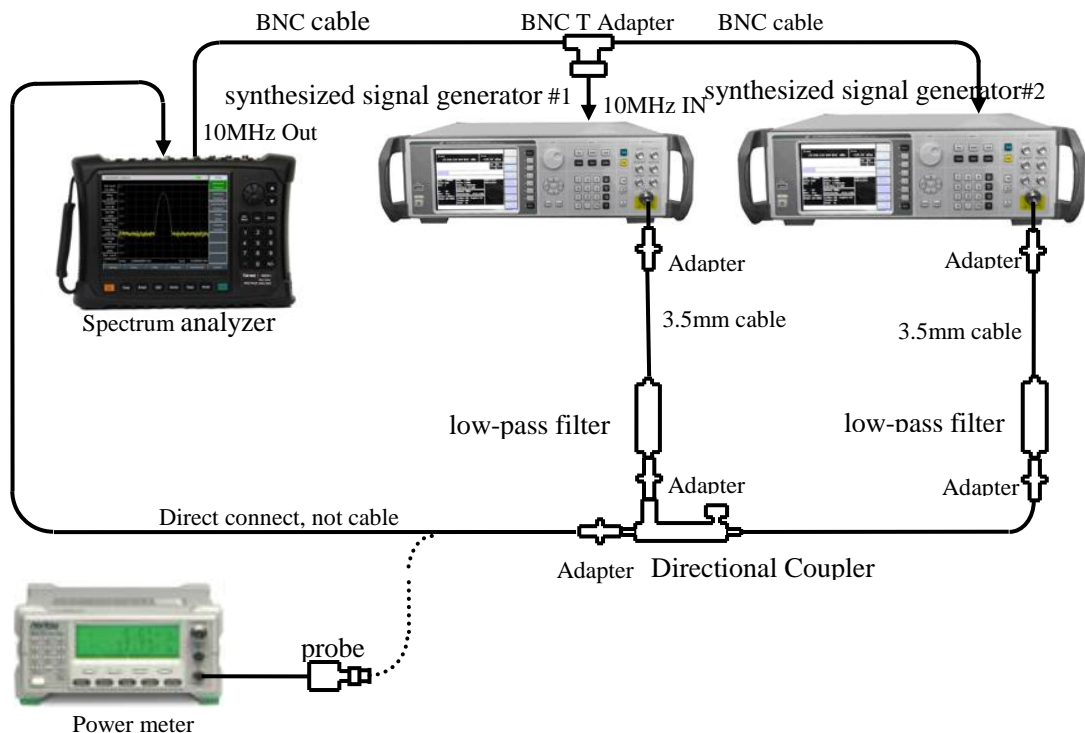

Fig.12-11 Setting for 3-order intermodulation distortion Test (4GHz~44GHz)
- 17) Connect the test instrument as shown in Fig. 12-11. Using Directional Coupler, do not connect the directional coupler to the spectrum analyzer.
- 23) Connect the test instrument as shown in Fig. 12-11. Using Directional Coupler, do not connect the directional coupler to the spectrum analyzer.